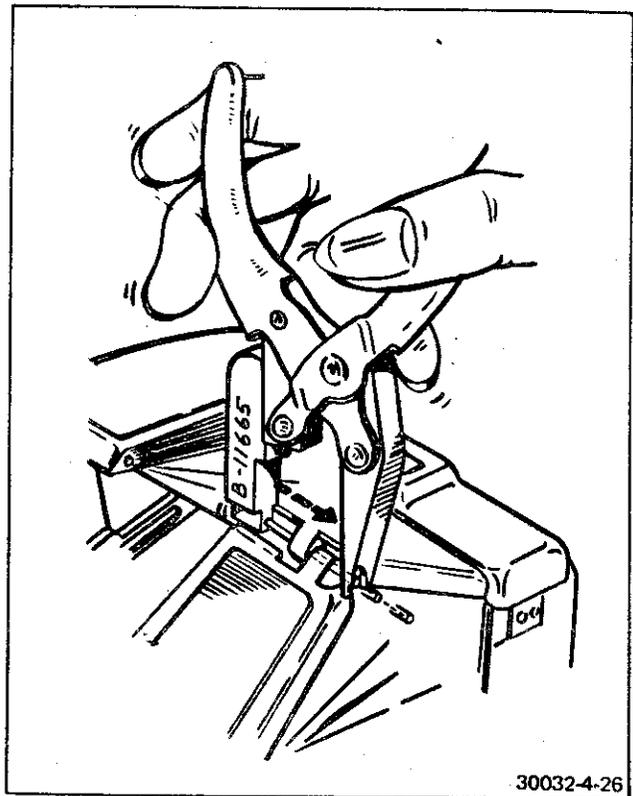

FIGURE 4-26 REMOVING SHORT-COVER-TO-MIRROR-COVER HINGE PINS
- a. Use Special Tool #11665. Remove the mirror-cover-to-short-cover hinge pins (Figure 4-26).
- f. Remove the two (2) short-cover-to-mirror-cover hinge pins, using Special Tool #11665 by inserting it through the separation between the short cover and the mirror cover (Figure 4-26).